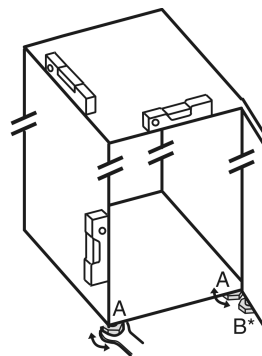

Fig. 35
- Unscrew the adjustable feet Fig. 35 (A) using the enclosed open-end spanner and a spirit level until the appliance is firmly aligned and level.
- Unscrew the adjustable foot *Fig. 35 (B)* on the swap bearing block with the enclosed open-end spanner until it rests on the floor.
- Turn the adjustable foot *Fig. 35 (B)* a further 90° at most to avoid damaging the door.